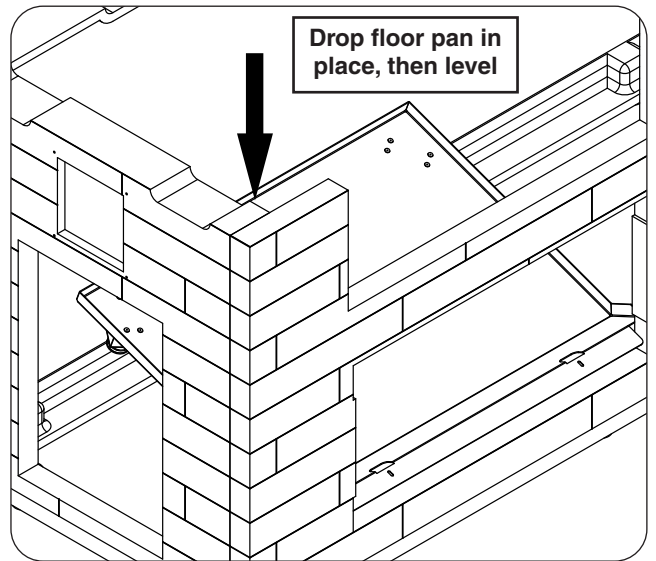

Fig. 9-2 Place floor pan
1. Place floor pan into the double door cutout as shown (see Fig. 9-2).